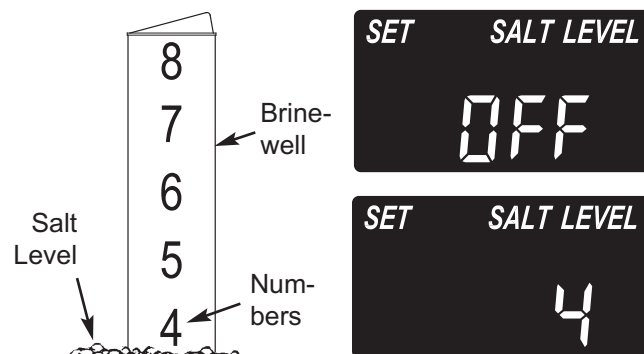

FIG. 24
2. The salt level scale, on the brine-well inside the tank, has numbers from 0 to 8 (see Fig. 24). Observe the highest number the leveled salt is at, or closest to.